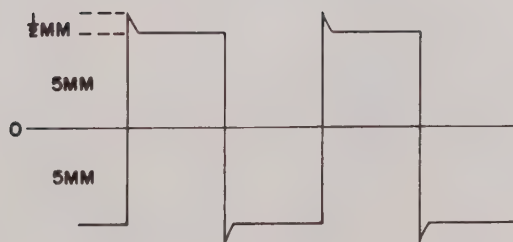

Figure 4-16B Pen Response, Damping Set at 70% of Critical
4. While alternately operating and releasing the preamplifier calibration voltage control, adjust the pen motor damping potentiometer until the overshoot (spike) at the top of the step-function rise is exactly 0.5 millimeters above the horizontal maximum. Figure 4-16B shows this Peak.